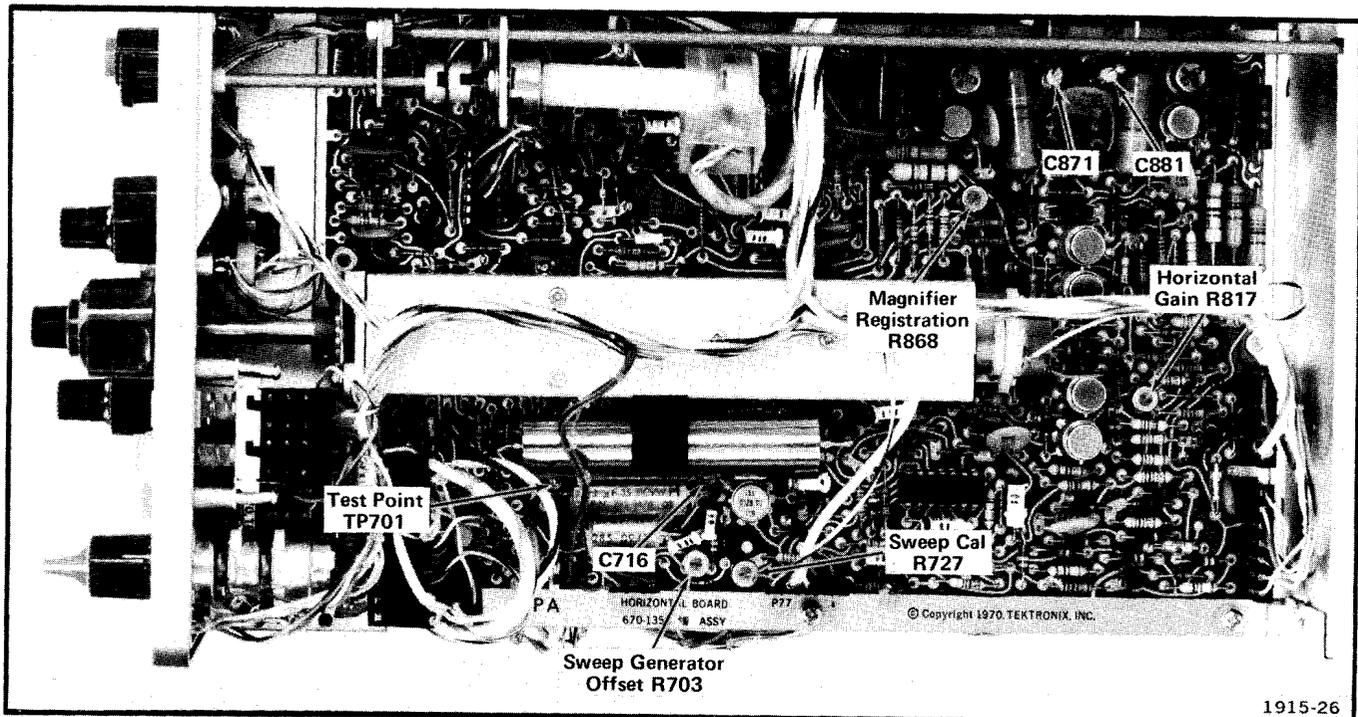

Fig. 5-9. Location of horizontal system adjustments and test points.
- Connect the tip of the 1X probe to TP701 (see Fig. 5-9).
f. ADJUST—Sweep Generator Offset adjustment R703 (see Fig. 5-9) to center the test oscilloscope display around the 0 V DC reference level.
f. ADJUST—Sweep Cal adjustment R727 (see Fig. 5-9) for a sweep duration of 11 milliseconds.
c. ADJUST—Horizontal Gain adjustment R817 (see Fig. 5-9) for one 1-millisecond time mark per division.
f. ADJUST—Magnifier Registration adjustment R868 (see Fig. 5-9) to align the middle time mark with the center vertical graticule line.
d. ADJUST—C716 (see Fig. 5-9) for two time marks per division.
h. ADJUST—C871 and C881 (see Fig. 5-9) for best timing and linearity, excluding the first and last 2 divisions of the magnified sweep.
k. ADJUST—C871 and C881 (see Fig. 5-9) as necessary for the best compromise of timing and linearity between $1 \mu\text{s}$ with 50X magnification (as in step 6 part i) and $.2 \mu\text{s}$ with 10X magnification (as in part 6 part e).